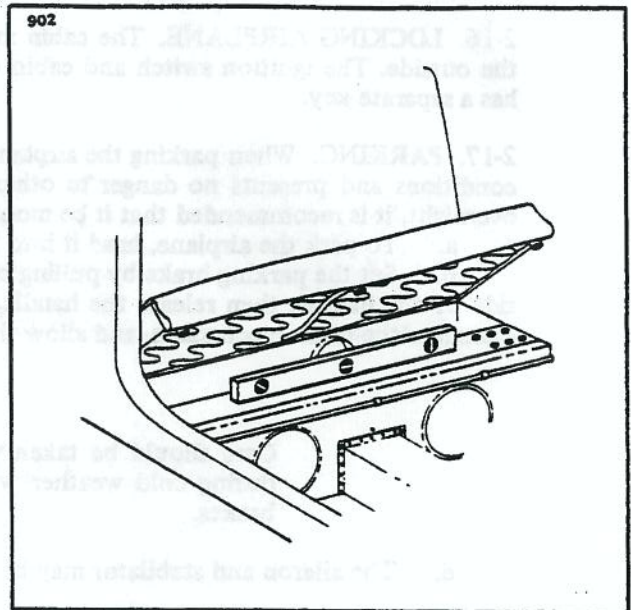

Figure 2-7. Leveling Laterally
b. To laterally level the airplane, place a level across the spar box assembly under the rear seat. (Refer to Figure 2-7.) Raise or lower one wing tip by deflating the appropriate tire on the high side of the airplane or adjust either jack until the bubble of the level is centered.